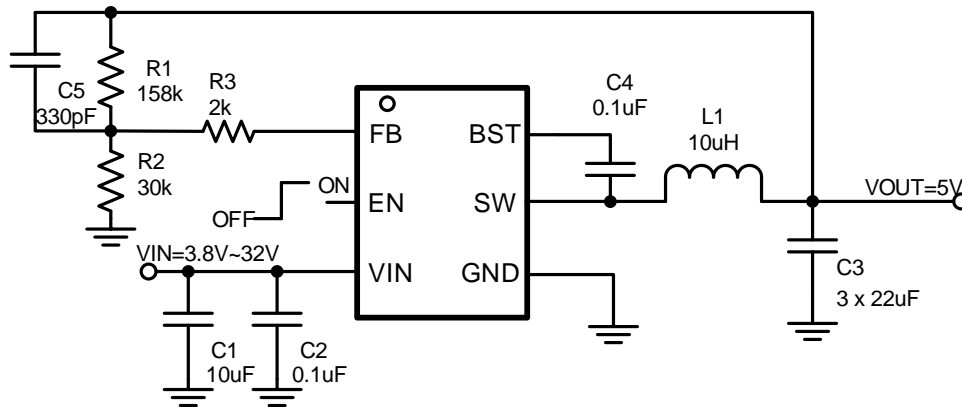

Figure 13. 24V Input, 5V/3A Output
The SCT2331 features external programmable output voltage by using a resistor divider network R_1 and R_2 as shown in the typical application circuit Figure13. Use equation (11) to calculate the resistor divider values.